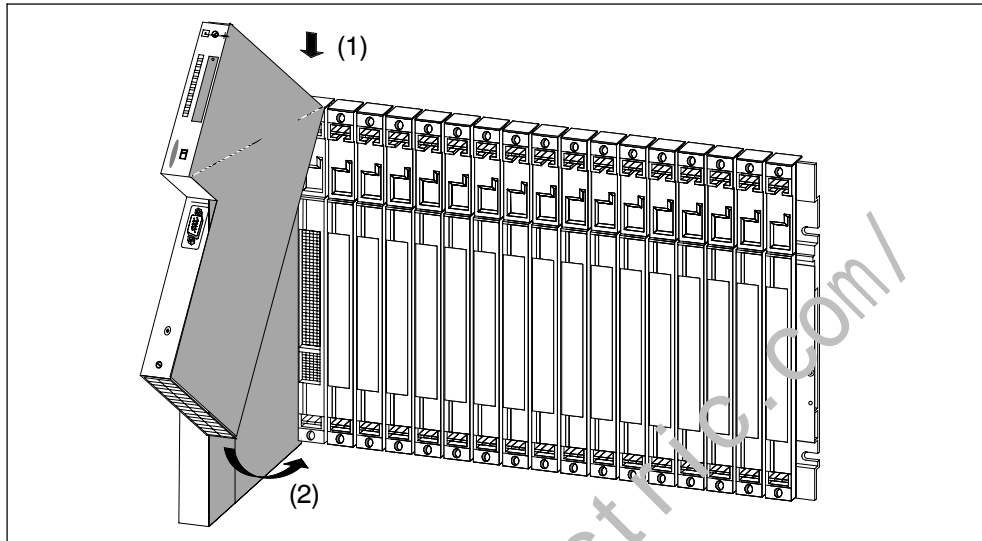

Figure 2-4 Attaching the Modules
4. Attach the first module and swing it downwards (see Figure 2-4).